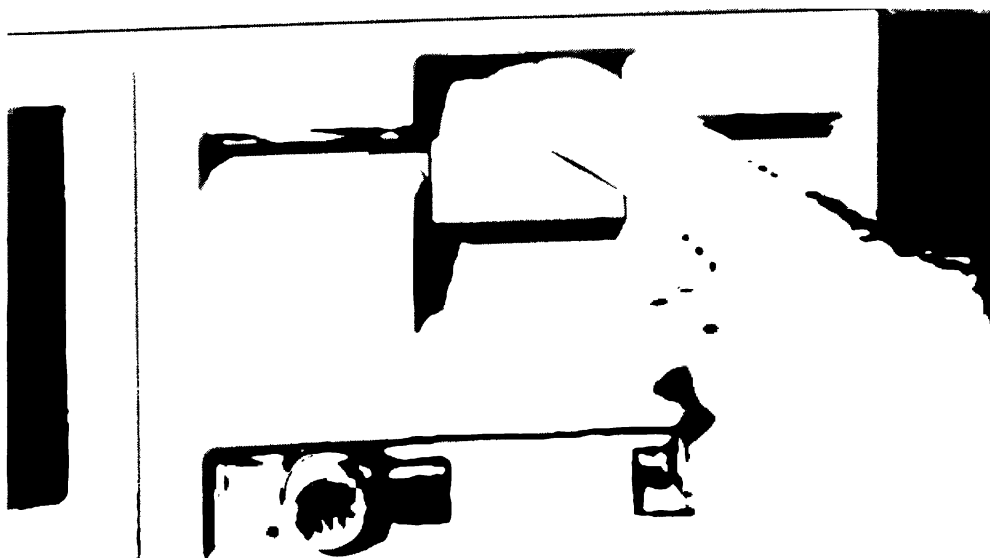

Figure 2. Opening the Disk Slot Latch
1. Open the disk slot latch by pressing in on the top of the square panel on the disk loading slot. (See Figure 2.)